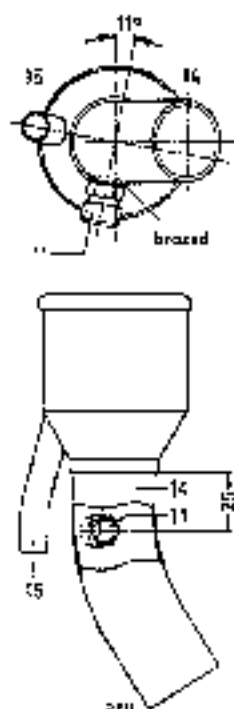

Fig. 07-0/25
b) In order to avoid damage to the fuel return line (12) grind down the welding seam along the longitudinal member over a length of approx. 10 cm (see Fig. 07-0/27).
13. Slice the hose (7) onto the fuel return line (12) and fasten with a hose clip.